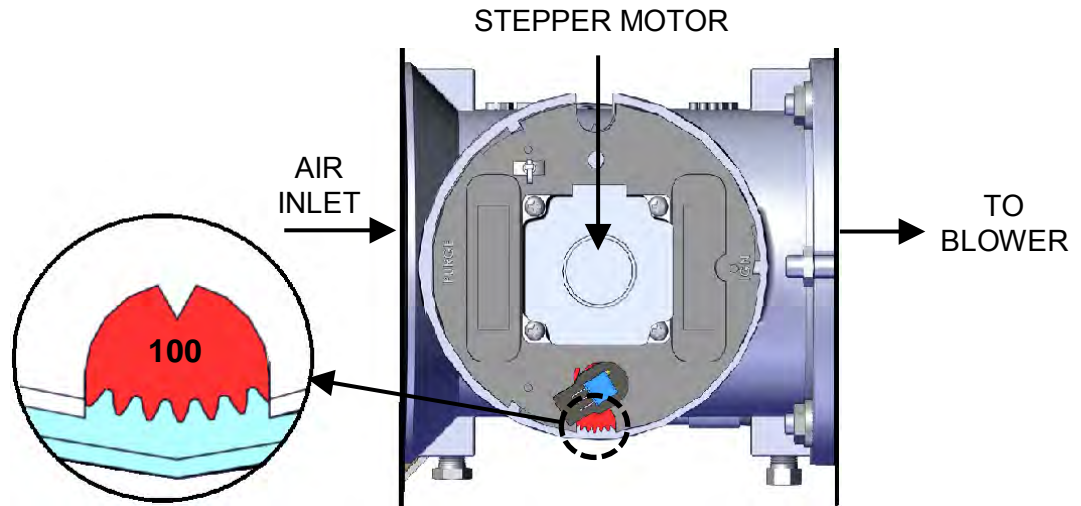

Figure 3-4: Air/Fuel Valve In Purge Position
- b) The Air/Fuel Valve rotates to the full-open purge position and closes purge position switch. The dial on the Air/Fuel Valve (Figure 3-4) will read 100 to indicate that it is full-open (100%).